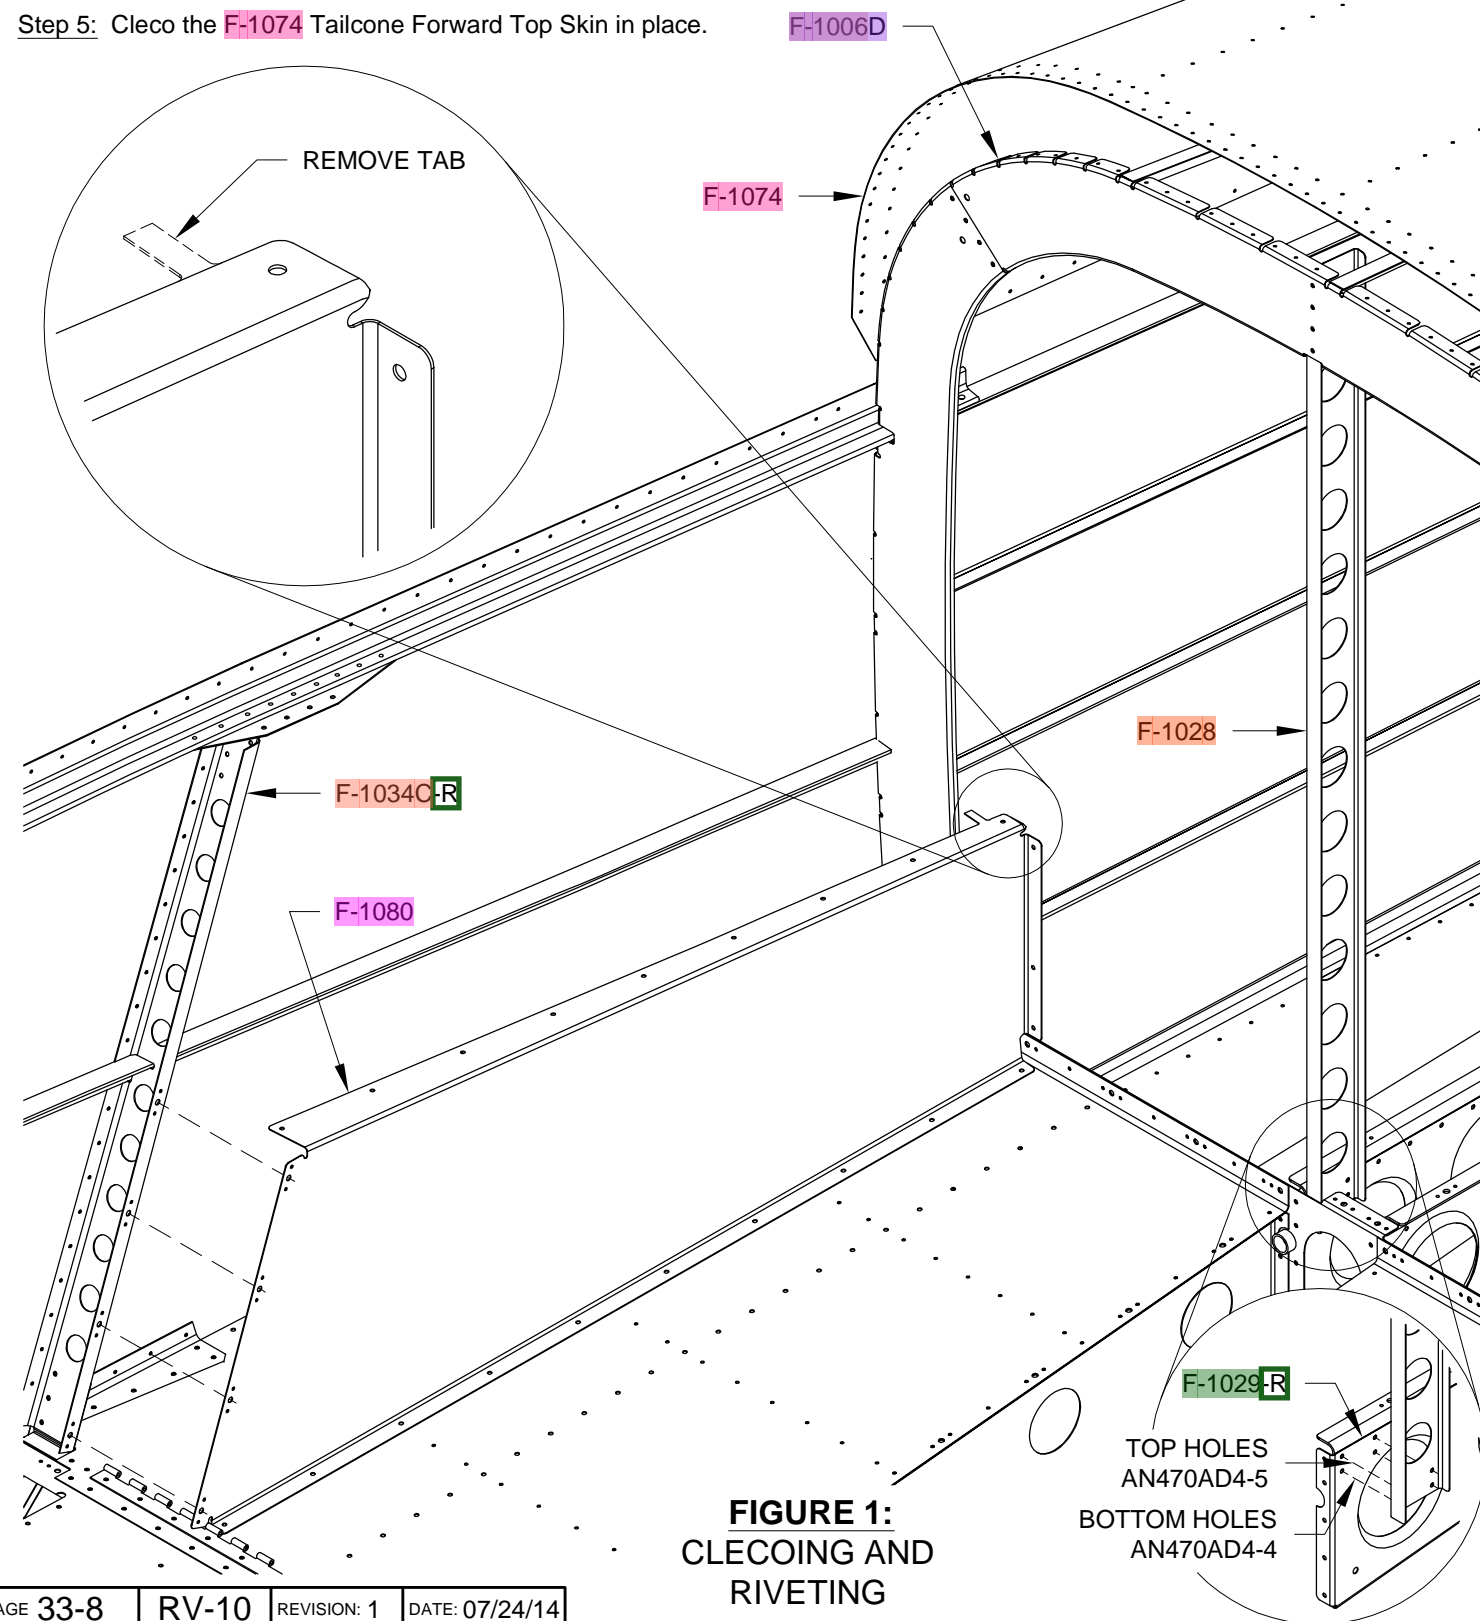

FIGURE 1:
Step 1: Remove the tab from the top flange of the F-1080 Right Baggage Cover as indicated in the blowup of Figure 1 (for clarity the F-1034B Seatback Brace is not shown).
Step 4: Using only the top two holes in the forward flange of the F-1028 Baggage Bulkhead Channel, cleco the flange to the F-1006D Bulkhead. Rivet the bottom end of the baggage bulkhead channel to the F-1029-R Bellcrank Rib using the rivets called-out in the blow-up of Figure 1. (The top end is riveted after the Cabin Cover is installed in a later section.)